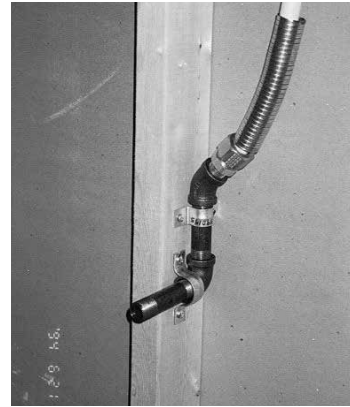

Fig. 4-38
- c) Stub-outs (Fig. 4-38) – Gastite/FlashShield+ CSST connections to stub-outs fabricated from approved fuel gas piping materials.